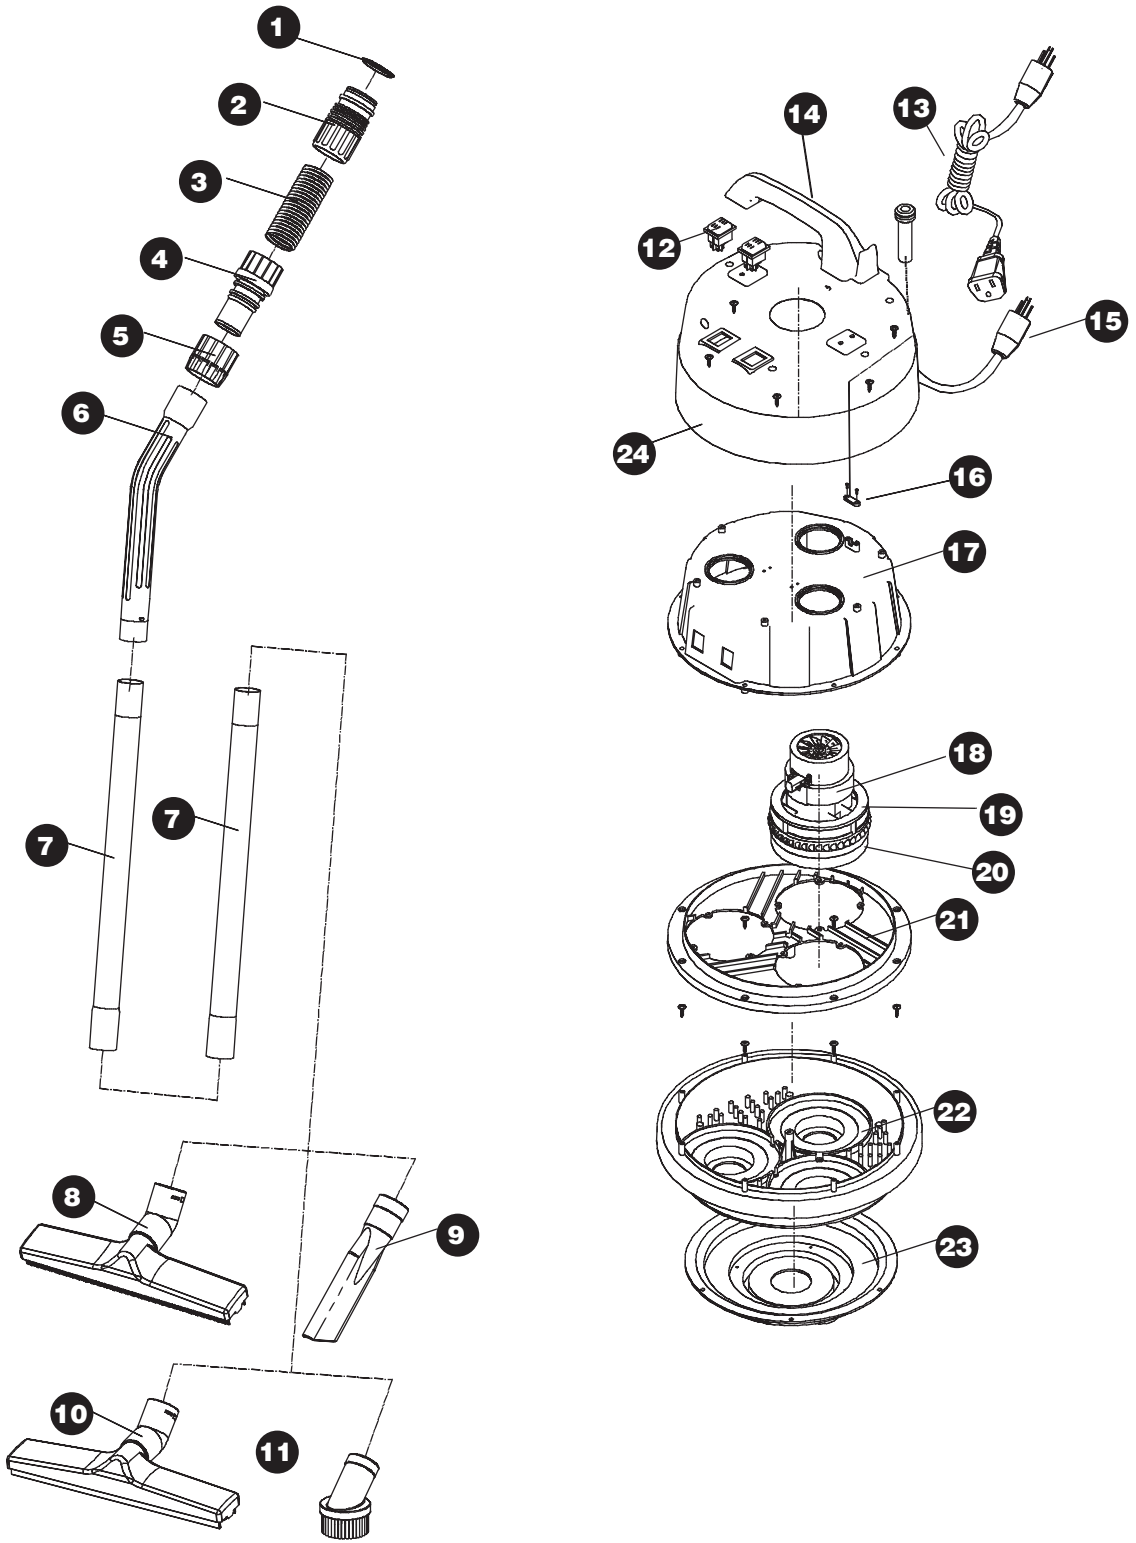

Fig. 2
2. A float shut-off assembly (Fig. 2)